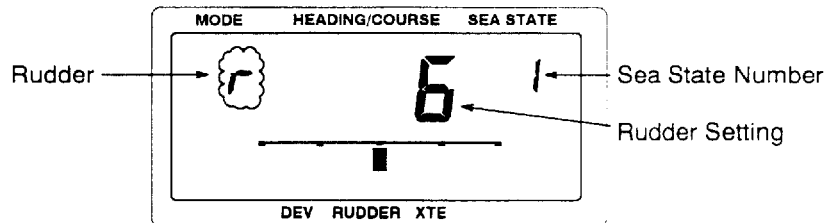

Fig. 4-2 Items in the user's mode
3. Press the **SEA STATE** key to select item to adjust. Fig 4-2 shows the items available and the selection sequence when pressing the **SEA STATE** key.
As shown in Fig.4-2 the USER'S mode contains five items. In the default setting, counter rudder and automatic trim sensitivity are disabled since frequent adjustment of them is usually not required. You can enable them, or disable other items, by doing the following.
2. Press **STBD** to select item. Each pressing this key changes item as shown in Fig.4-2.